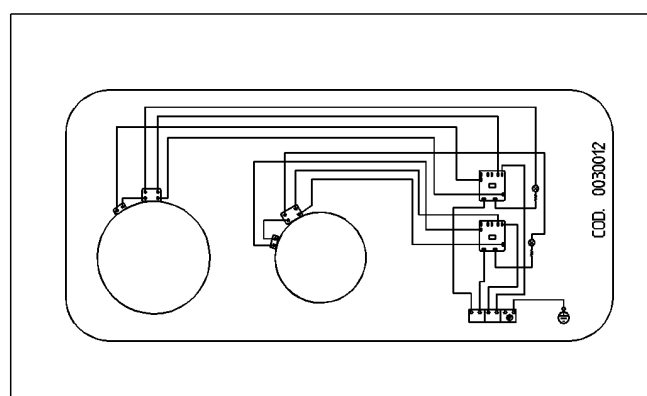

FIG. 12
- b)** Remove the connection jumpers on the clamp following the scheme of fig. 12 of page (attached on the body).